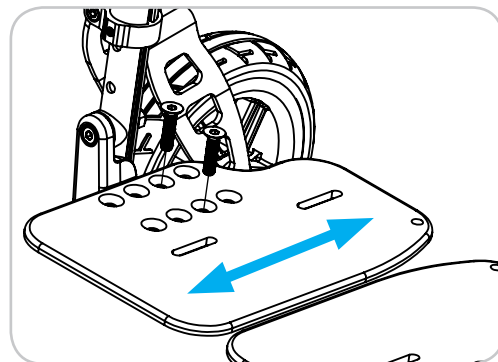

Figure 29
For chairs equipped with shorter footplate heights, it will be necessary to move the footplate pivot down. Reference Figure 29.
1. Remove bolts using a 4mm hex wrench. Reference Figure 29.